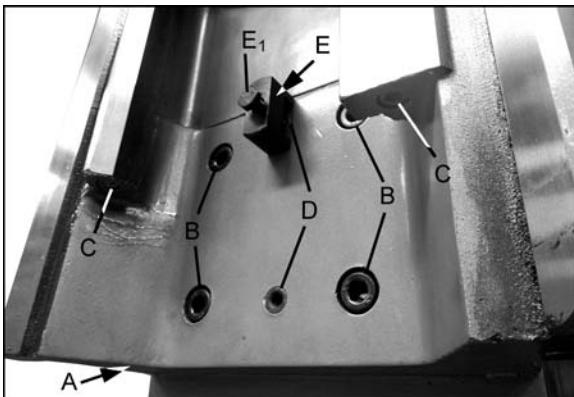

Figure 40 – Gap section
1. To remove the gap section (A, Figure 40), remove four socket head bolts (B) and two socket bolts at the ends of the rails (C).
2. Remove the two tapered alignment pins (D) by placing the provided gap bridge pin driver (E) over them and threading the screw ( $E_1$ ) down into them, until the pins are loosened enough to be pulled out.